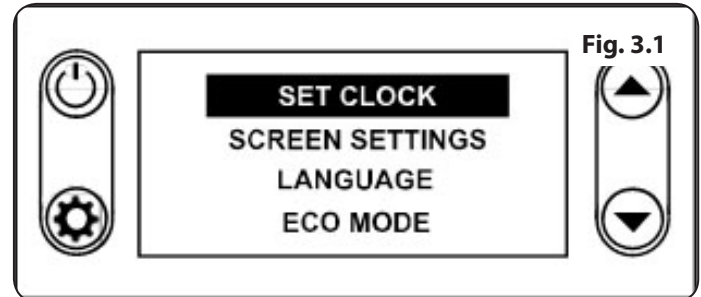

Fig. 3.1
1. By pressing the 'MENU' button, the SET CLOCK will be highlighted (**Fig. 3.1**).